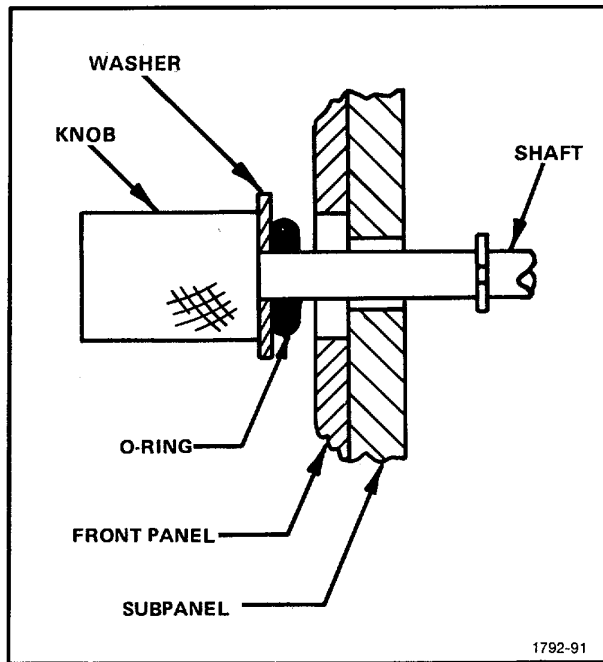

Figure 5-38. Detail of X-Y Module thumbscrews
**32. Preparation of the Thumbscrews that are used for securing the X-Y Output Module (see Fig. 5-38)**
3. Position the O-ring on the shaft as shown in Fig. 5-38.